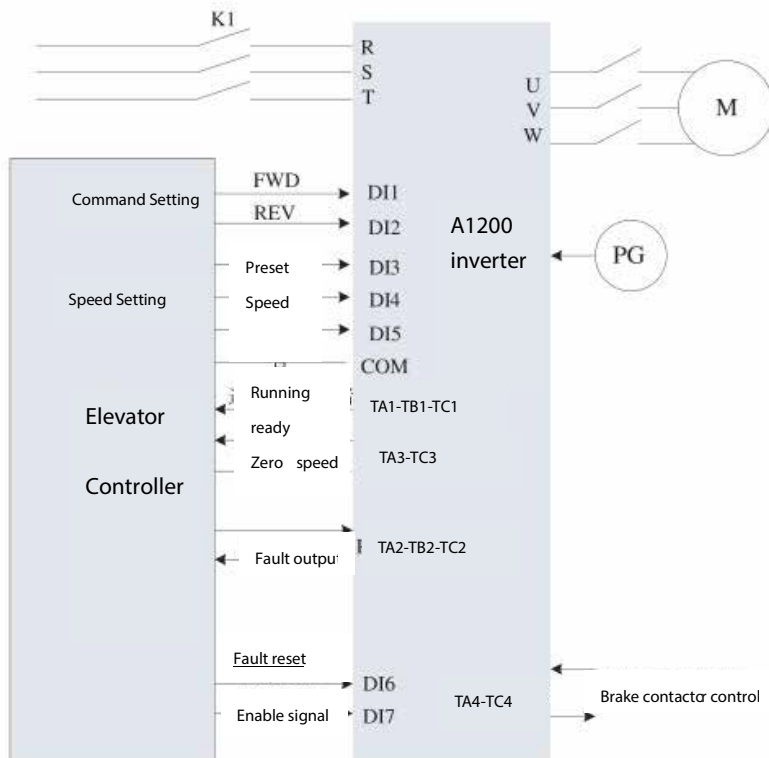

Figure 7-1 Wiring Diagram of Preset Speed Control
- 1) In figure 7-1, except TA2-TB2-TC2, function parameters of other input and output points have been configured at the factory and can only be changed when necessary;